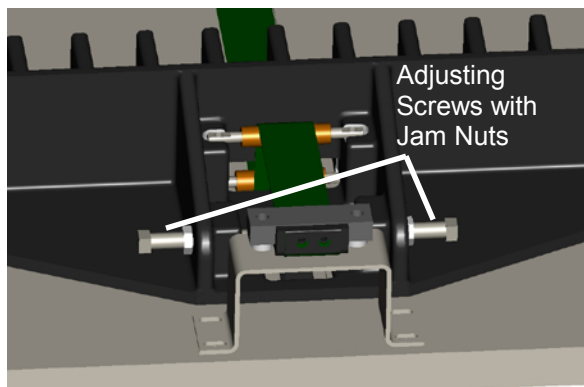

Figure 13
3. Loosen the jam nuts on the backgauge adjusting screws (Figure 13).